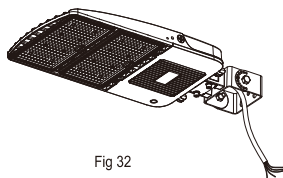

Fig 32
Step 3 . Fix the Type D bracket and cover plate on the lamp with a screwdriver, as shown in Fig. 32